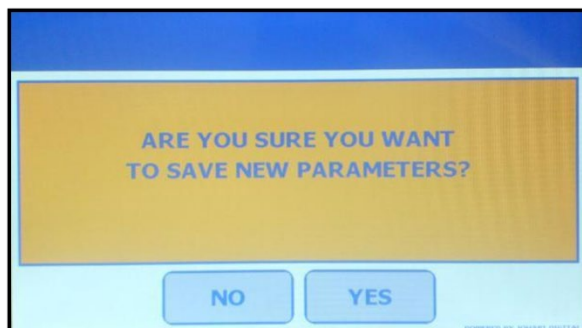

Figure V-24: Confirm Parameters Screen
3. Press [SAVE] to save changes. The FP-24 5G prompts "ARE YOU SURE YOU WANT TO SAVE NEW PARAMETERS?". Press [YES] to save. \(Figure V-24\).